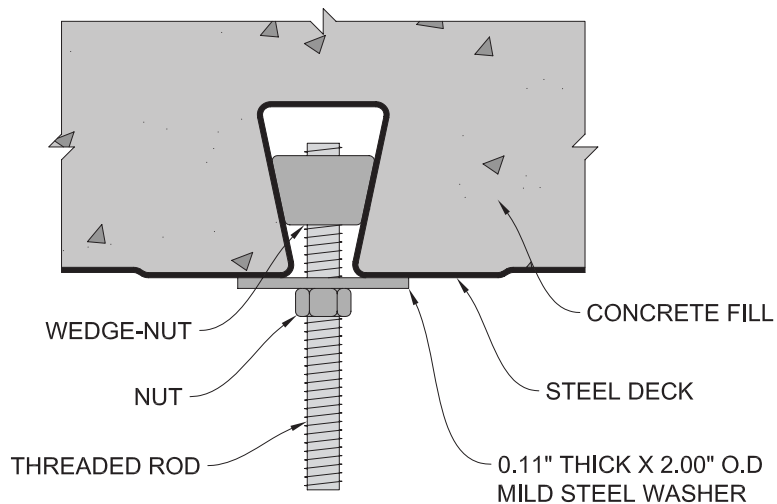

Figure 1
2. Insert wedge-nut and rotate to seat the surface against the webs of the steel deck as shown in Figure 1.
3. Position wedge-nut in the center of the rib with the threaded rod or bolt perpendicular to the bottom surface of the steel deck as shown in Figure 1.